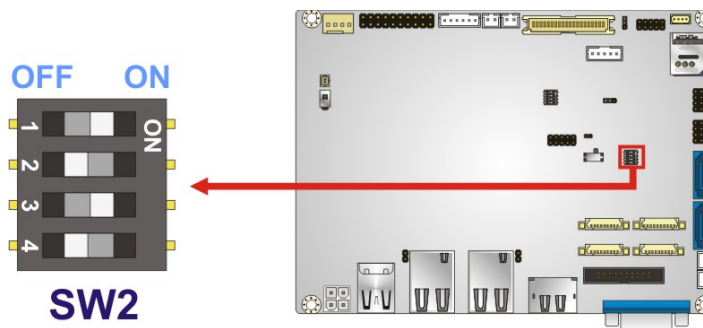

Figure 4-17: RS-232/422/485 Mode Select Switch Location
- Jumper Location:** See Figure 4-17